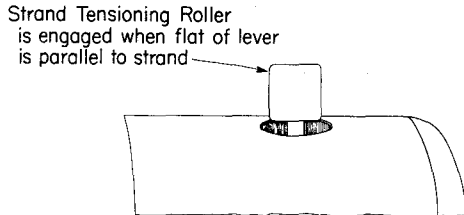

Fig. 5—Position of Lever When Roller is in Working Position
(7) Engage the strand tensioning roller by pressing the lever all the way down, turning it counterclockwise to the end of its travel, and allowing it to rise. This locks the lasher on the strand. When the roller is in the engaged position, the lever is parallel to the strand as illustrated in Fig. 5.